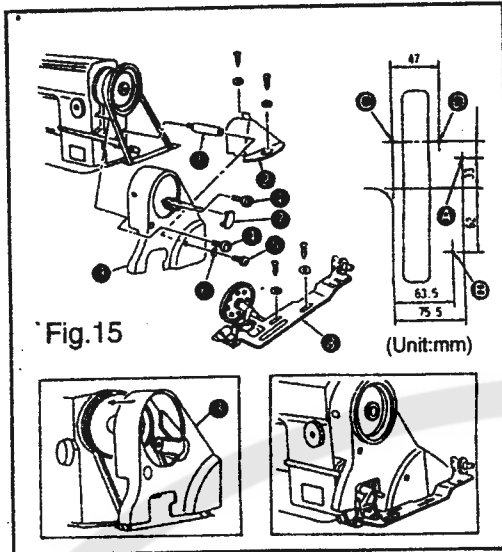

Fig.15
12. INSTALLING THE BELT COVER AND THE BOBBIN WINDER (Fig.15)